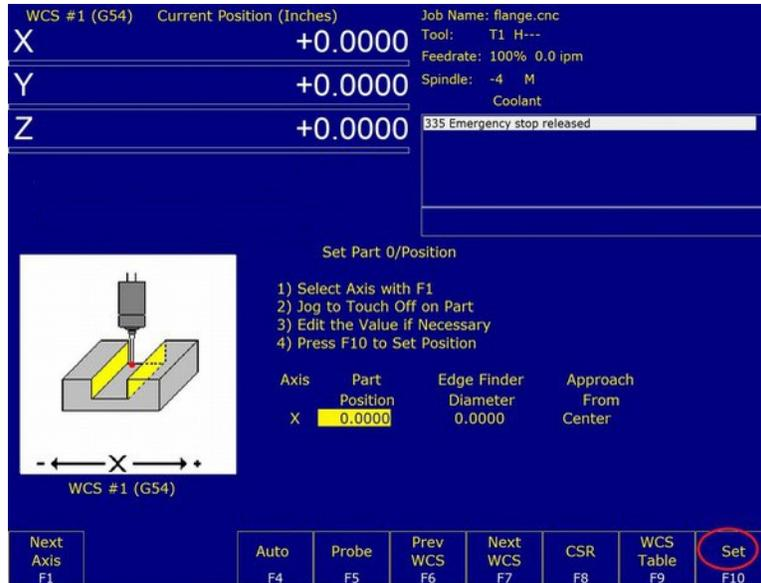

Figure 6.10.3
7. **Zero the software** From the main menu, press **F1 – Setup** → **F1 Part** → **F10 Set Zero** as shown below in Figure 6.10.3.